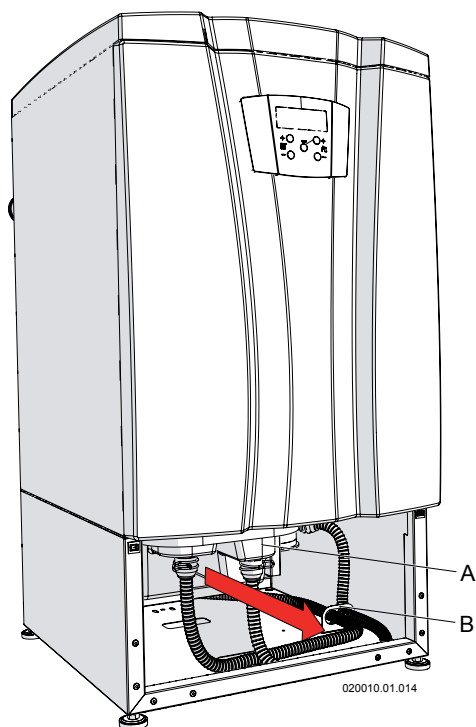

Figure 16-10 Condensate trap and neutralizing box removing
- 2.- Pull out the condensate box "A" (Figure 16-10);